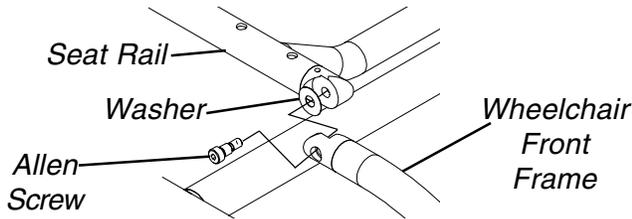

FIGURE 3 - REPLACING SEAT FRAME - A-6/A-6S ONLY
## REPLACING SEAT FRAME - A-6/A-6S ONLY (FIGURE 3)
4. Remove the locknut, two (2) washers, stop and screw from the rearmost end of the seat frame.
9. Remove two (2) allen screws and washers that secure front of seat frame to wheelchair front frame.
11. Align front of seat rail with wheelchair front frame as shown in FIGURE 3.
12. Install two (2) allen screws and washers to secure front of seat rail to wheelchair front frame.
14. Install the screw, stop, two (2) washers and locknut onto the rear of the seat frame.
16. Secure the FRONT of the back angle bracket to the seat frame with the screw, washer, nylon spacer, coved spacer, washer and locknut as shown in FIGURE 3.